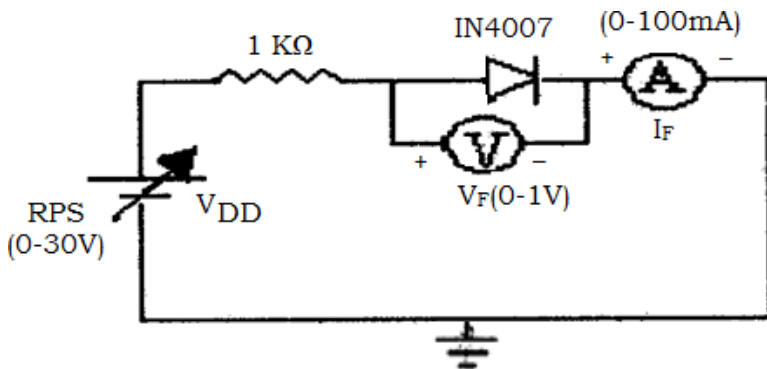

Figure 1 Measurement of Voltage and current in forward biasing
- 1) Connect the circuit as per the circuit diagram of fig. 1.